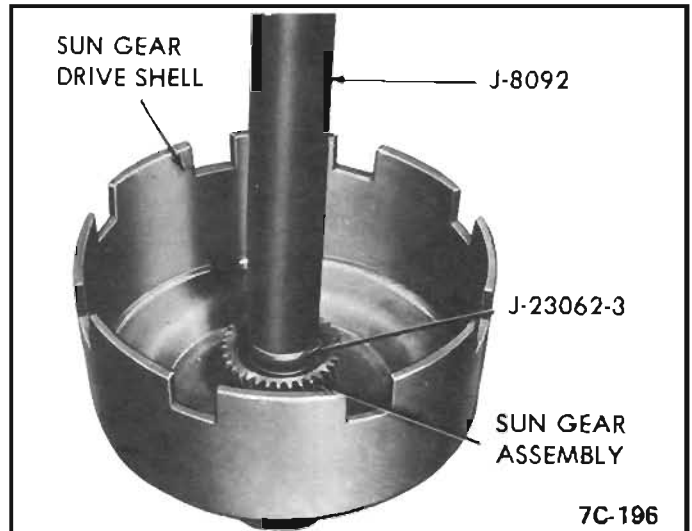

Figure 136 Sun Gear Bushing Installation
1. If replacement of sun gear bushings is necessary, use Tool J-23062-3 and Drive Handle J-8092 and drive both bushings out through sun gear. *See Figure 136.*
1. Install sun gear bushing using Tool J-23062-3 and Drive Handle J-8092 and install flush to .010" below counter bores. *See Figure 136.*